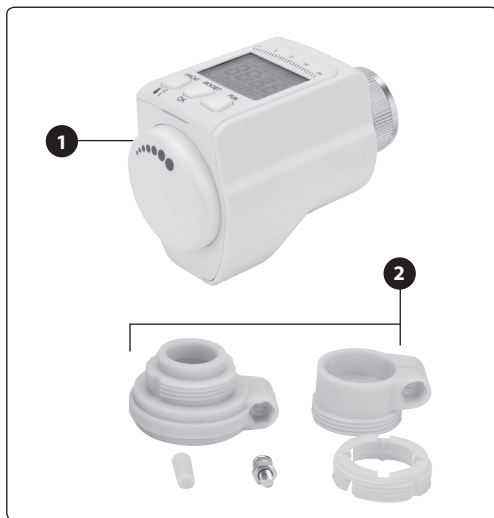

Abb. 1
1. Thermostatregler (Abb.1, Position 1)